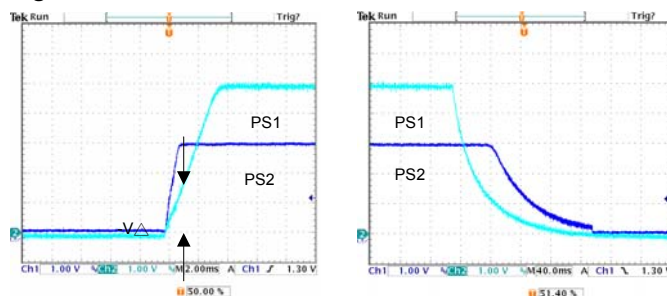

Figure 42: Ratio-metric
For Ratio-Metric applications that need the PS2 supply voltage rises first at power up and falls second at power down (Figure 42), use the following equation (2) to calculate the value of resistor R1,